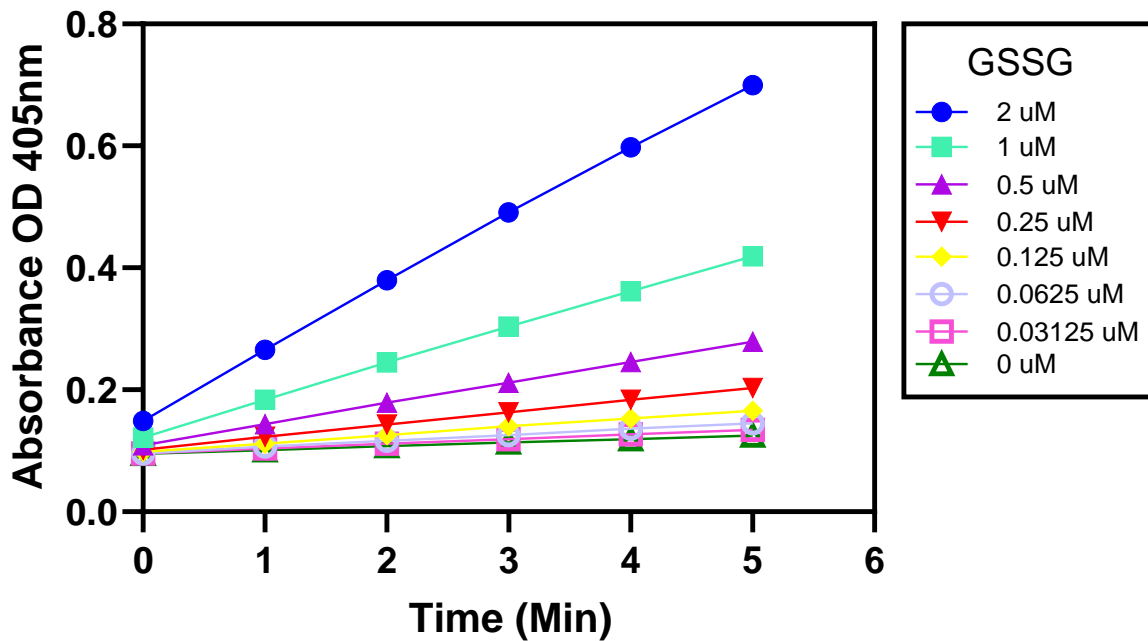

Figure 2. (Kinetic method) Plot of absorbance versus time for each GSSG standard.
2. Graph the average of each standard, sample, and background absorbance at 405nm against incubation time. Determine the slope for each curve (See Figure 2). This is called i-slope.
Figure 3. **(Kinetic method)** Plot of i-slope (from Fig. 2) versus GSSG standard concentration. These standard curves are for demonstration only. A standard curve must be run with each assay.